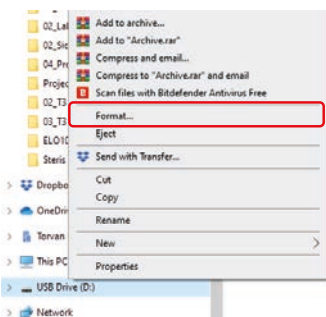

Fig. 57
2. Once the USB has been recognized, right click on the USB drive, and then click on 'Format' (Fig. 57)